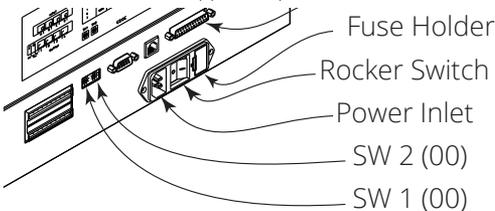

Fig. 36 — Rear panel showing the fuse holder location
A blown fuse may be replaced with a replacement fuse in the fuse holder (Fig. 36). If the replacement fuse blows, it indicates the existence of a serious electrical problem. Call WPI Technical Support at 866.606.1974 or email at technicalsupport@wpiinc.com.
- Locate the fuse holder on the rear panel (Fig. 36).